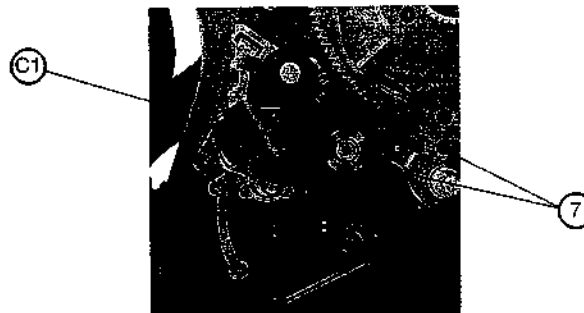

fig. 9
- Fit attachment (45) of the tape back tension brake.
- Refit spring (39).
- Refit pin (14) in its housing.
- Fit the toothed part (48) by aligning the first tooth with the marking (M1).
3) AUSTAUSCH VON TON-UND KONTROLLKOPF: (Abb.9)
- Die 2 Schrauben (7) entfernen und dann die Kontrollkopfeinheit anheben.
3) REPLACEMENT OF THE AUDIO-CONTROL HEAD. (fig. 9)